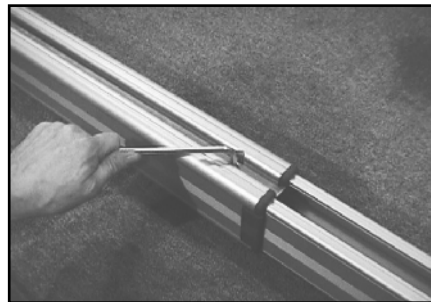

Figure 2
2. Using 6mm Allen key, loosen the screws that hold the metal anchor to allow the rail to extend and retract freely to fit on your tub (Figure 2).